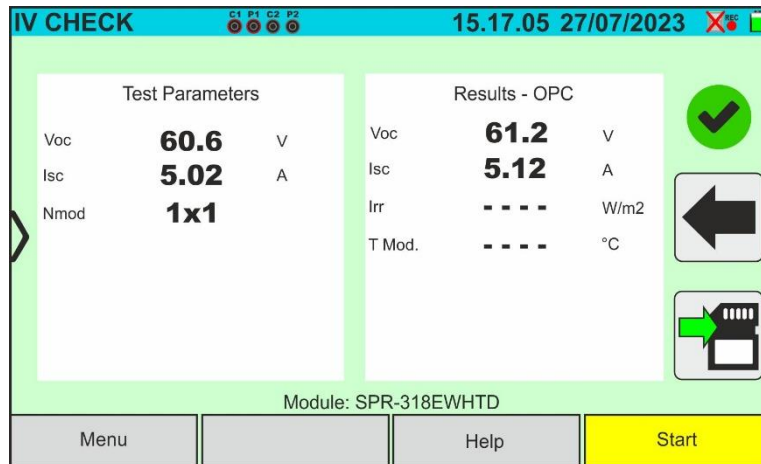

Fig. 76: IVCK test result @OPC with synchronous recording
16. Press the **START/STOP** key (or **Start** on the display) to activate the tests. If there are no error conditions, the instrument will show the icon "⌚" on the display for a few moments together with the message "**Measuring...**" The test can take **up to approximately 20 seconds**, depending on the open circuit voltage and module parameters. At the end of the test, the instrument will **only** display the values **measured at OPC without the references of the irradiance and temperature values of the module** (see Fig. 76) and it is necessary to wait for the end of the test session and the **subsequent synchronisation** with the SOLAR03 remote unit to obtain the final result (values @ STC) of the tests performed, as shown here below: